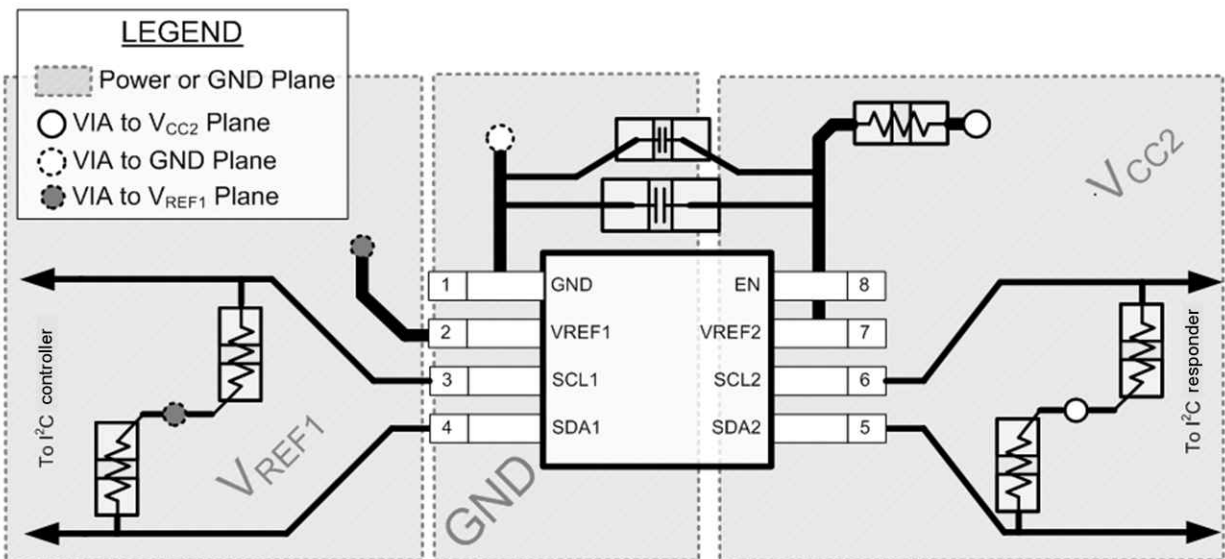

Figure 11-1. Layout Example
In all PCB layouts, it is a best practice to avoid right angles in signal traces, to fan out signal traces away from each other on leaving the vicinity of an integrated circuit (IC), and to use thicker trace widths to carry higher amounts of current that commonly pass through power and ground traces. The 100-pF filter capacitor should be placed as close to VREF2 as possible. A larger decoupling capacitor can also be used, but a longer time constant of two capacitors and the 200-kΩ resistor results in longer turnon and turnoff times for the TCA39306 device. These best practices are shown in Figure 11-1.
For the layout example provided in Figure 11-1, it would be possible to fabricate a PCB with only two layers by using the top layer for signal routing and the bottom layer as a split plane for power (VCC) and ground (GND). However, a four-layer board is preferable for boards with higher-density signal routing. On a four-layer PCB, it is common to route signals on the top and bottom layer, dedicate one internal layer to a ground plane, and dedicate the other internal layer to a power plane. In a board layout using planes or split planes for power and ground, vias are placed directly next to the surface-mount component pad, which must attach to VCC or GND, and the via is connected electrically to the internal layer or the other side of the board. Vias are also used when a signal trace must be routed to the opposite side of the board, but this technique is not demonstrated in Figure 11-1.